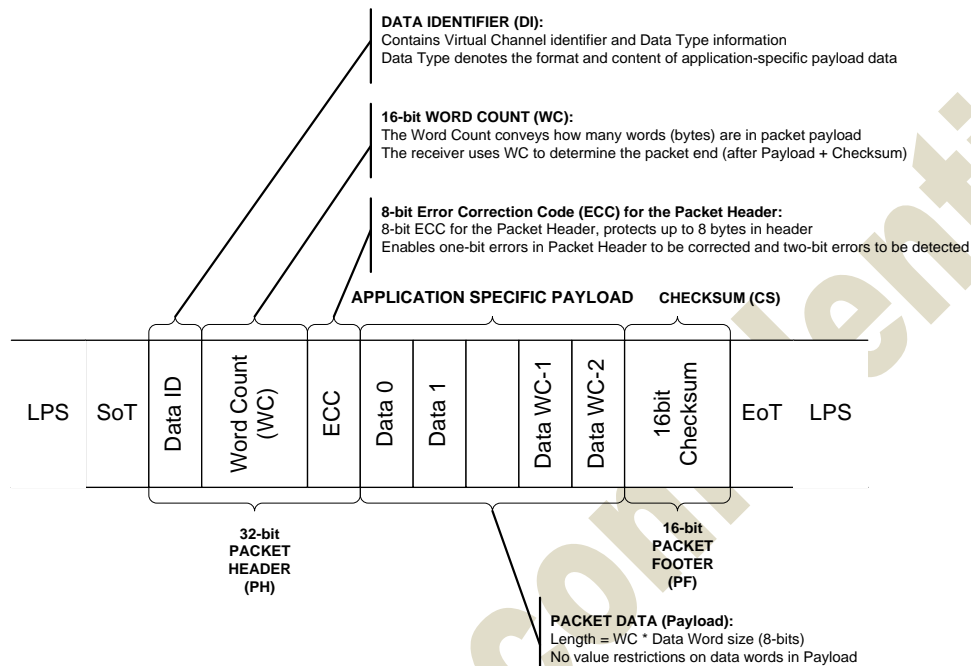

Figure 7.10: Long Packet Structure
Figure 7.10 shows the structure of the Long packet. A Long packet shall consist of three elements: a 32-bit Packet Header (PH), an application-specific Data Payload with a variable number of bytes, and a 16-bit Packet Footer (PF). The Packet Header is further composed of three elements: an 8-bit Data Identifier, a 16-bit Word Count, and 8-bit ECC. The Packet Footer has one element, a 16-bit checksum. Long packets can be from 6 to 65,541 bytes in length.